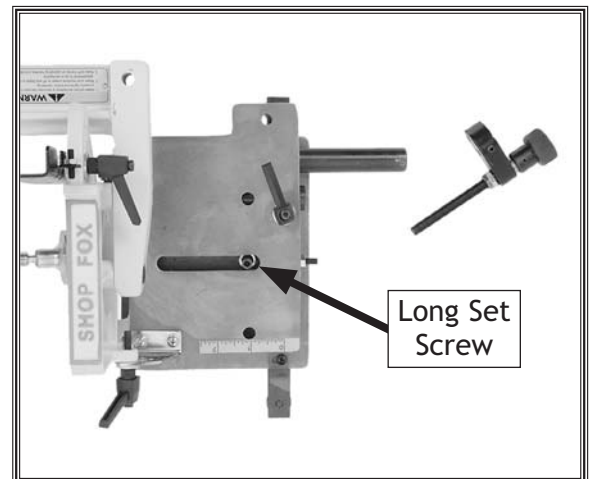

Figure 9. Slide plate mounted on the base plate.
7. Place the slide plate over the long set screw, as shown in **Figure 9**.